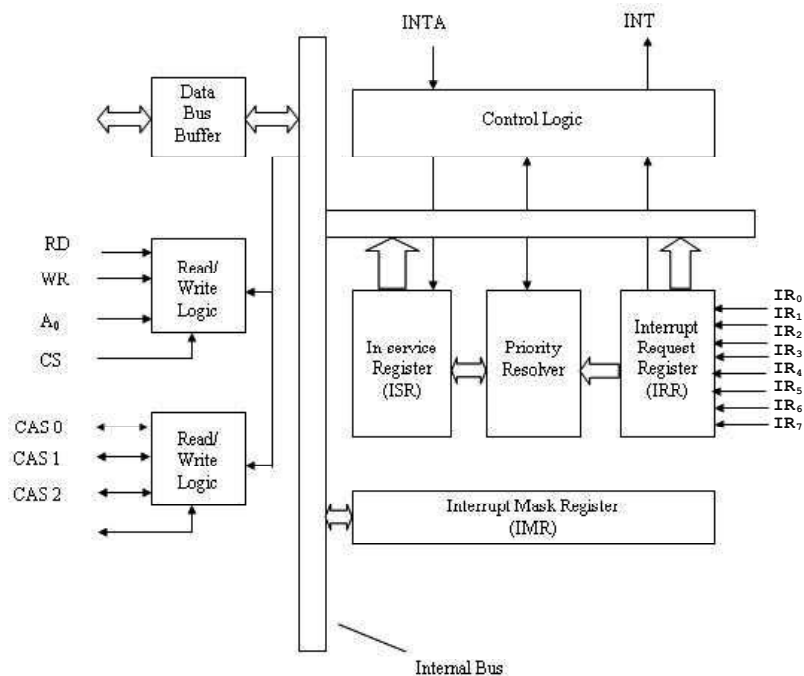

Fig. 4.28 8259A Block Diagram
The block diagram of 8259A is shown in Figure 4.28. It consists of eight blocks. The Read/Write logic is used to write a command or read a status whereas the control logic has two connections INT and $\overline{\text{INTA}}$ connected to the INT and INTA pin of the microprocessor. The interrupt Request Register (IRR) has eight input lines (IR_0 - IR_7) for interrupts. When these lines go high, the requests are stored in the register. The In-Service Register (ISR) stores all the levels that are currently being serviced, and the Interrupt Mask Register (IMR) stores the masking bits of the interrupt lines to be masked. The Priority Resolver (PR) examines these three registers and determines, whether the INT should be sent to the microprocessor.